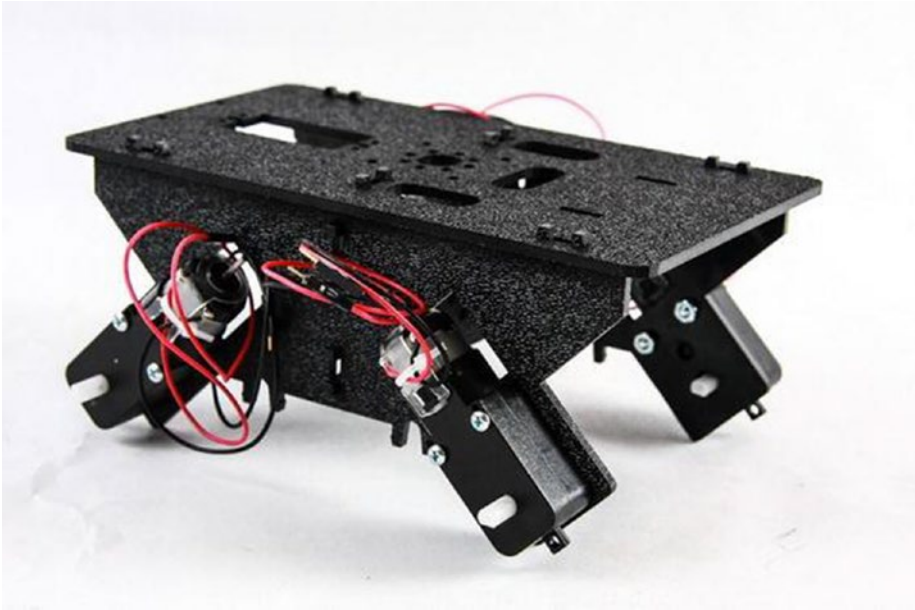

Figure 7-6. *All motors mounted*
3. Repeat the process for each of the three remaining motors (see Figure 7-6).